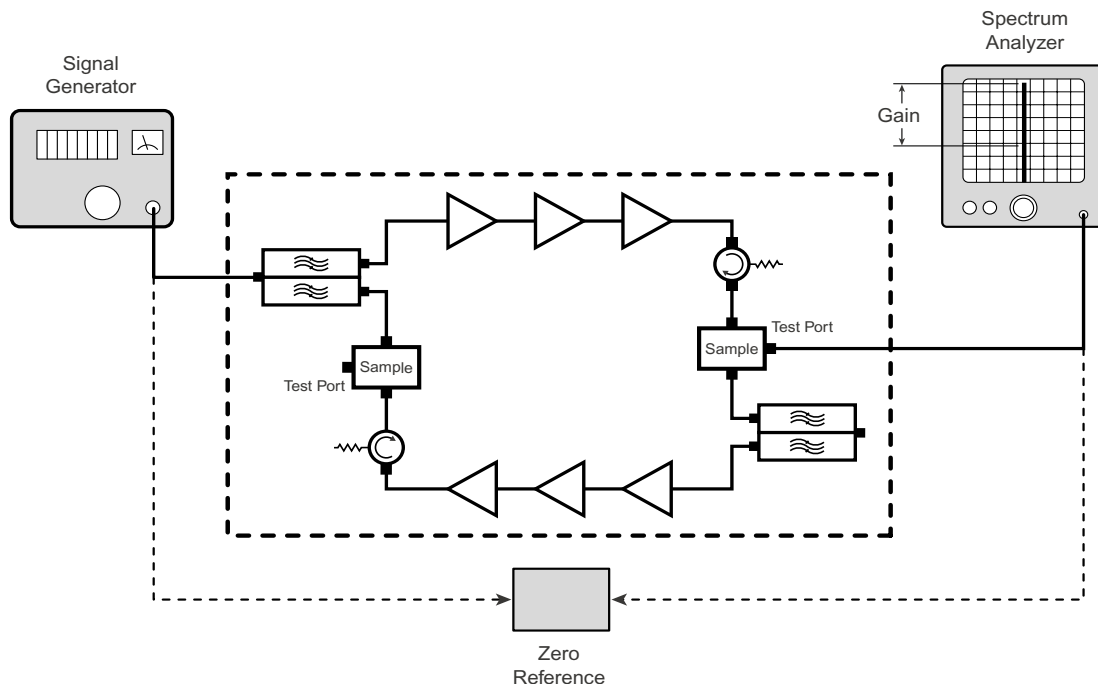

Figure 9: Measuring signal booster gain.
- 1) Measure the gain of the signal booster being careful not to exceed the maximum input level. **Figure 9** shows this being done using a signal generator and spectrum analyzer. Record the measured values for each passband. We recommend that a 50 ohm load be connected to the unused RF port on the bottom of the cabinet during the gain test.